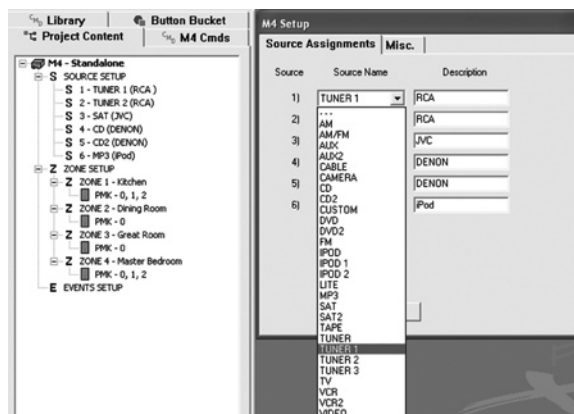

Figure 2 M4 Source Assignments
3. Click on any of the six inputs under “Source Name” that you want to change. A drop list of some 24 choices will appear. Refer to Figure 2.
- When you finish making your selections, you can add identifying information for each source component in the fields under **Description**, such as make, model, etc., for future reference. See **Figure 2**.